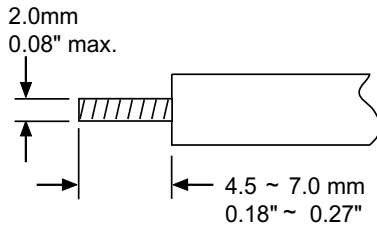

Fig. 4.2 Lead Termination
* The " stripped " leads as specified in Figure 4.2 below are used for power and sensor connections.